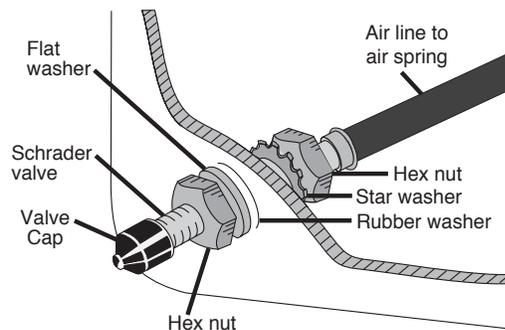

fig. C.2
4. Place a 5/16" nut and star washer on the air valve. Leave enough of the inflation valve in front of the nut to extend through the hole and have room for the rubber washer, flat washer, and 5/16" nut and cap. There should be enough valve exposed after installation – approximately 1/2" – to easily apply a pressure gauge or an air chuck (Fig. C.2).